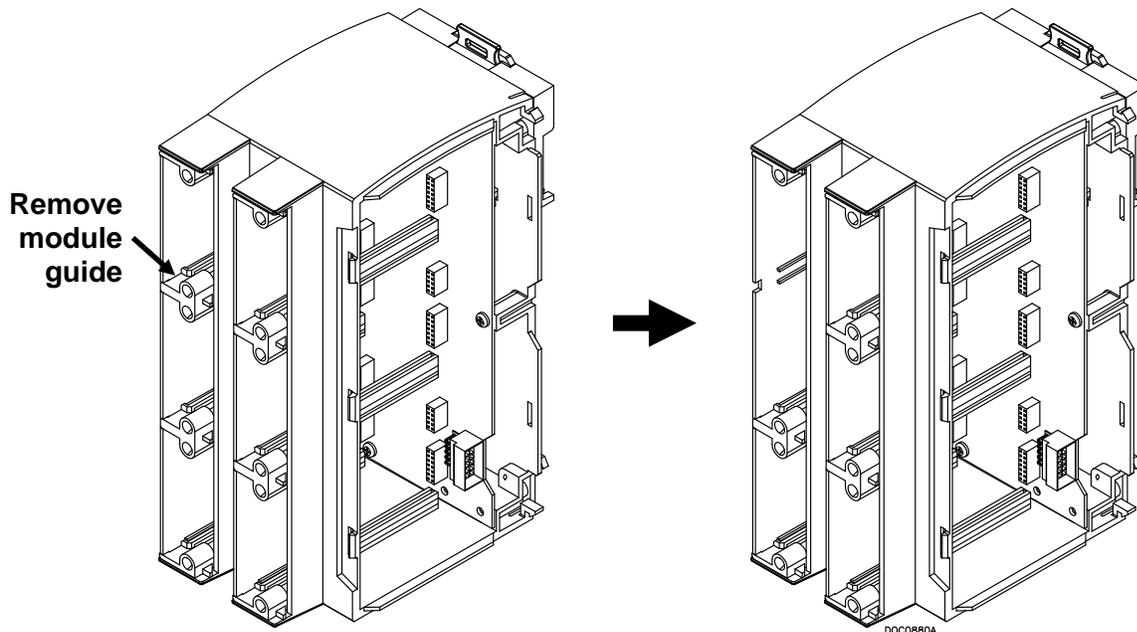

Figure 1. Original and Converted Series 2 Expansion Backplane
Converting a Series 2 ROC800 expansion backplane to a FFI HSE server requires you to remove the upper left-most module guide to accommodate the Foundation Fieldbus CPU Interface module. See *Figure 1*:
4. Locate the left-most upper module guide in the expansion backplane (see *Figure 1*). Using a standard set of pliers, hold the gray tip of the module guide and turn it one-quarter turn either clockwise or counter-clockwise. The guide should release.